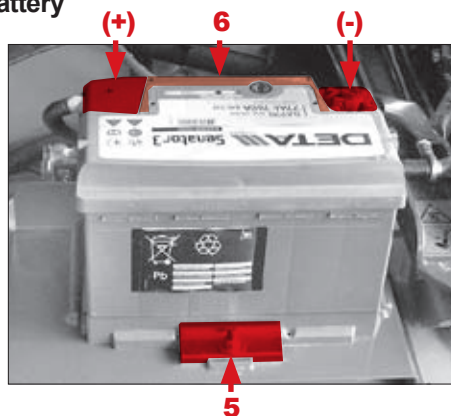

Fig. 98
7. Loosen the negative battery cable clamp item (-) (Fig. 98) and remove the clamp from the post. Position the cable so it is not touching the machine. Wrap an insulating material around the conducting part of the cable clamp to eliminate the risk of electrical shock.
9. Remove the battery support retaining bolt, item 5 (Fig. 98).
10. Remove the battery with the lifting aid incorporated in the battery identified as item 6 (Fig 98). If the battery does not have an integral lifting aid, use a special strap that fits over each pole and provides a means to remove the battery.